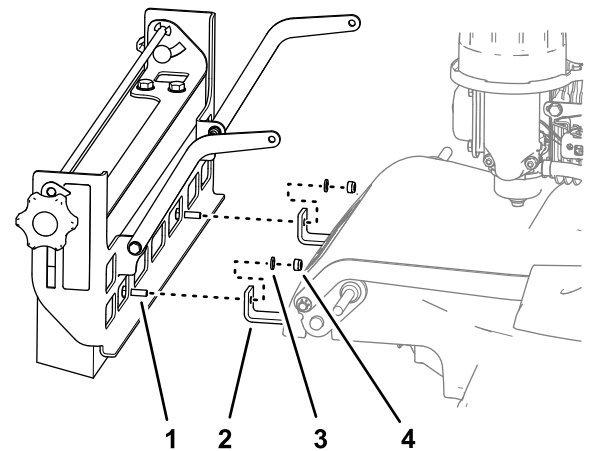

Figure 11
3. Align the capscrews that you assembled in steps 1 and 2 through the holes of the lower brush brackets as shown in Figure 11.
4. Assemble the brush mount and capscrews to the lower brush brackets (Figure 11) with 2 washers (6 mm) and 2 locknuts (6 mm).